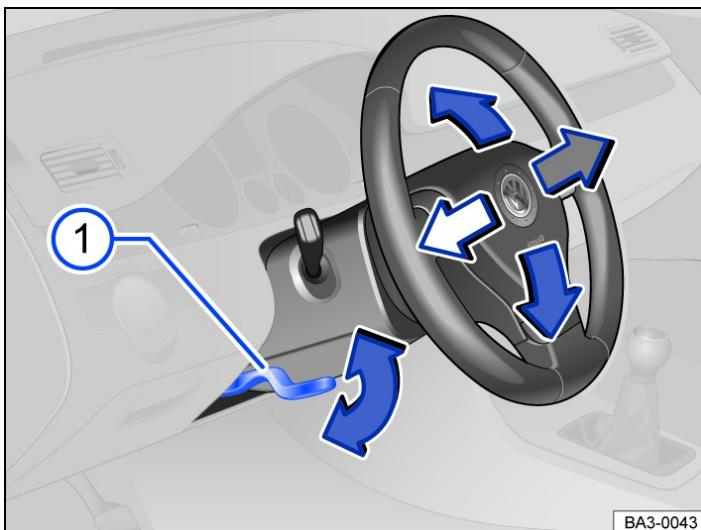

Fig. 1 Below the steering wheel in the steering column trim:
- Push down the lever → Fig. 1 ①.
- After adjusting the steering column, always move the lever → Fig. 1 ① up so that it engages securely. This prevents the steering column from moving spontaneously while the vehicle is in motion.